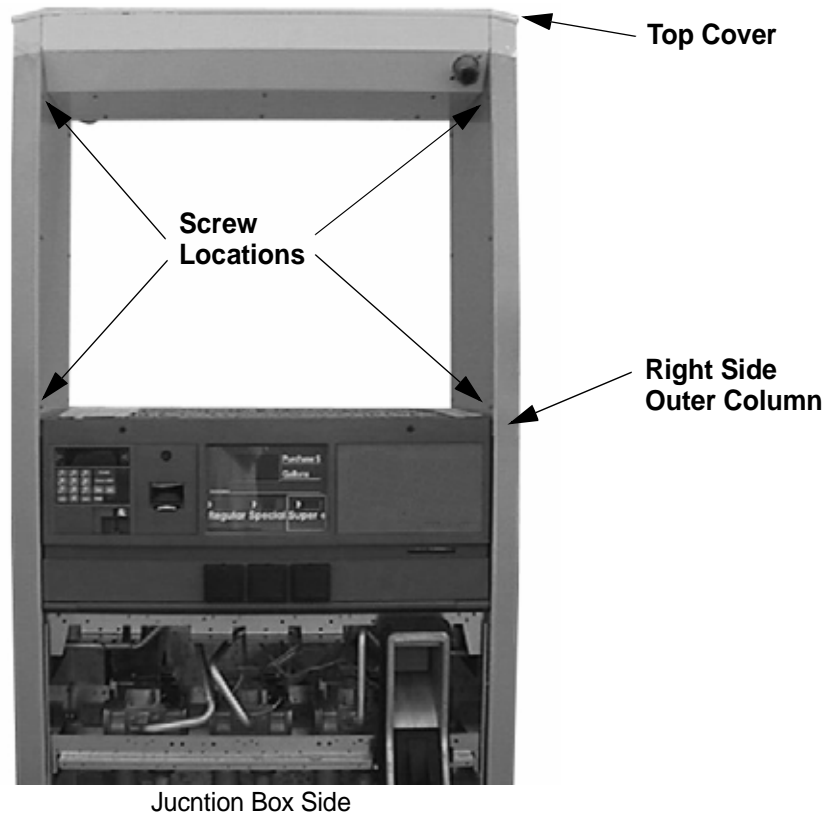

Figure 2-1 Outer Column Screw Locations
6. Remove the top cover and right side outer column, shown in Figure 2-1. Save the hardware for later use.